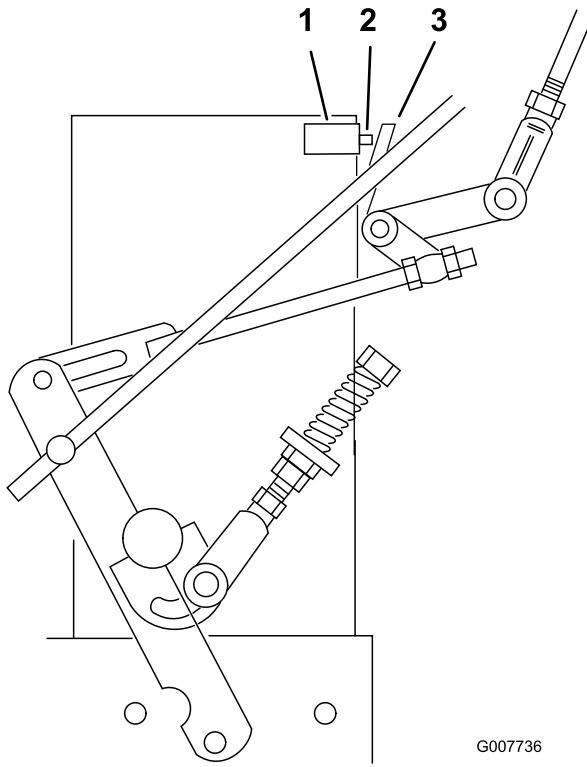

Figure 33
7. Check to make sure that the safety switch is pressed and there is a 8 mm (5/16 inch) space between the actuating tab and the switch (Figure 33).
8. If needed, adjust switch location to create the 8 mm (5/16 inch) space (Figure 33).